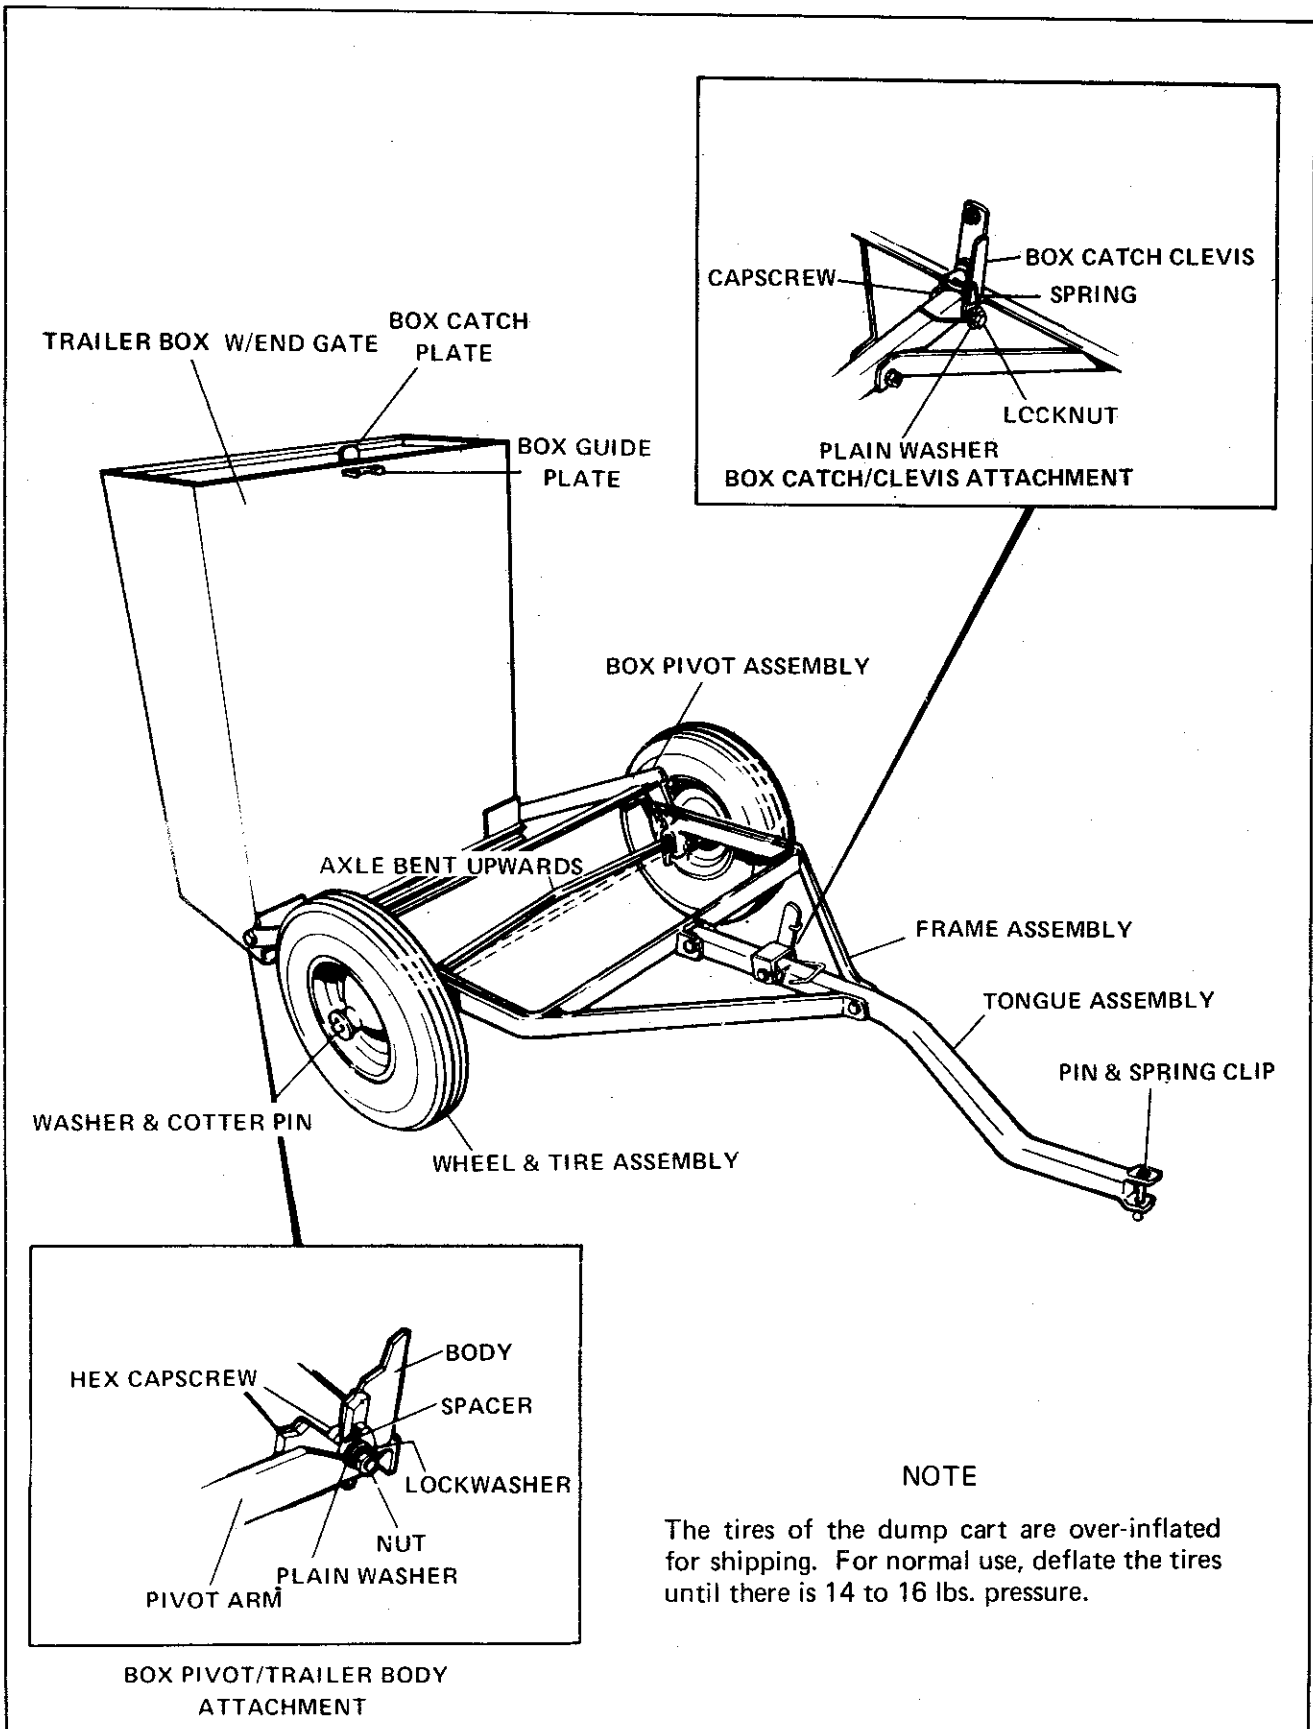

Figure 18. Dump Cart
3. With the bend in the center of the axle facing UP, place the cart frame over the axle so that the U-shaped pads on the axle fit inside the U-shaped brackets on the frame. Attach the axle to the frame with 5/16 x 1-3/4 inch capscrews and locknuts, one through each U-shaped bracket, see figure 18.
4. Attach the cart tongue to the cart frame with the tongue bend sloping downward, that is, the front of the tongue should be lower than the rear. Use two 3/8 x 2-1/4 inch capscrews, lockwashers and nuts (figure 18).
6. Place the dump cart box on its endgate and attach the box to the frame pivot assembly using two 3/8 x 1 inch capscrews, flat washers, bushing, lockwashers and nuts. Insert the capscrew from the inside of the box. Insert the bushing on the capscrew through the pivot assembly. Place flat washer and lockwasher on the capscrew, and tighten on the nut. (See figure 18.)
7. Attach the box latch clevis to the trailer tongue as shown in figure 18. Insert a 3/8 x 2-3/4 inch capscrew through the clevis and tongue. Place the latch spring on the capscrew, and hook the large end over the tongue, the small end over the latch handle.